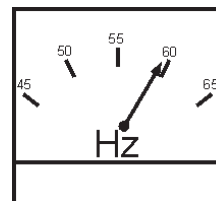

Figure 43. Frequency Meter (Hz)
- The generator's frequency meter (Figure 43) displays the 60 cycle output frequency in **HERTZ**.